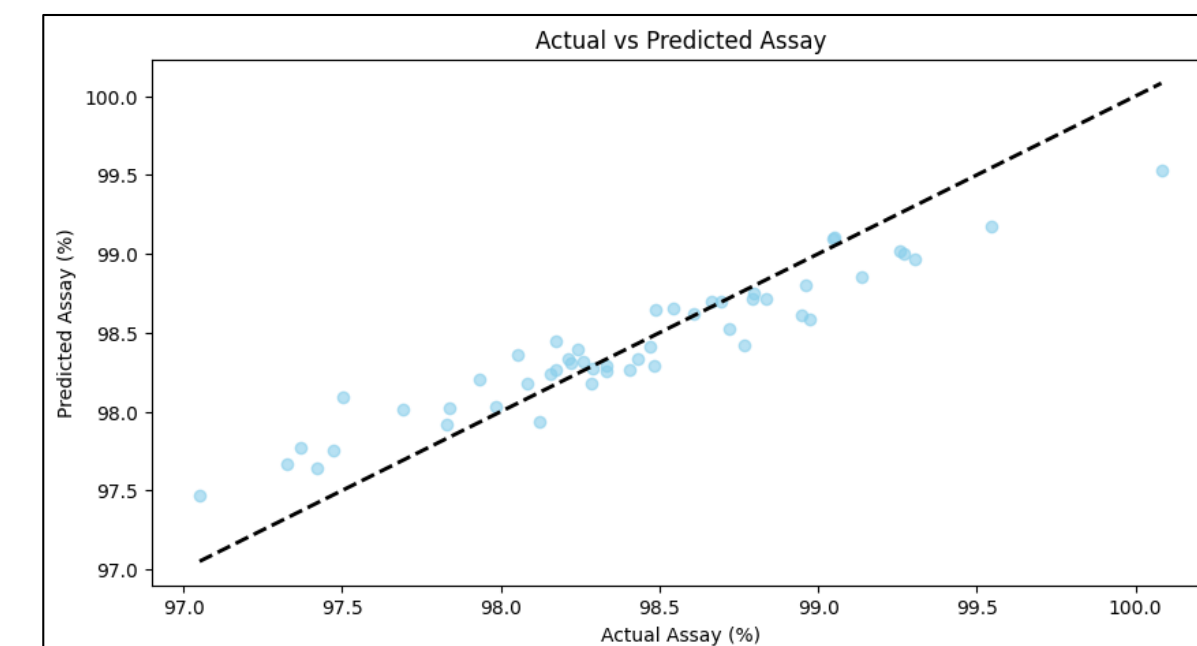

Figure 4: Plot of actual assay values compared to assay values predicted by the Random Forest model on a test data set.
- Figure 4 demonstrates the accuracy of the model for assay. Predictive capabilities are shown to weaken at the extremes of the data pool indicating that additional data points at the high and low end may help improve performance of the model.